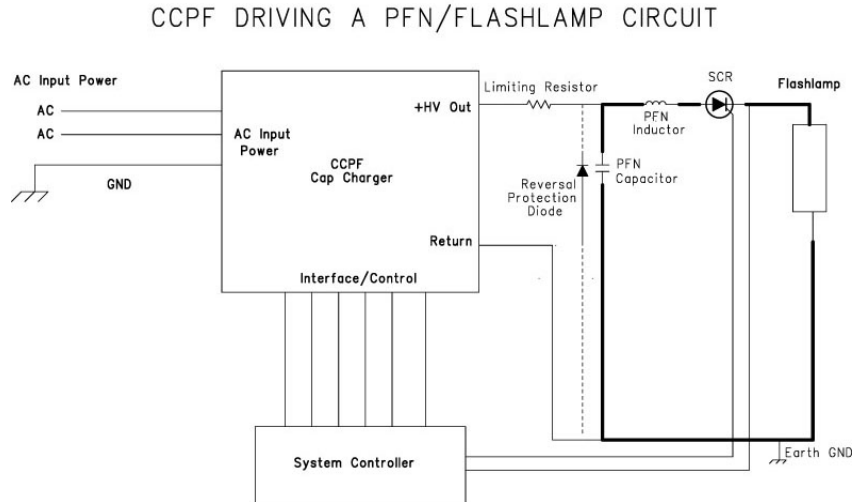

**Figure 3, CCPF-3500 Mechanical Outline Drawing**
Outline	Please see Figure 3, CCPF-3500 Mechanical Outline Drawing 14.2 inch length, 5.5 inch wide, 6.0 inch high (does not include mounting flanges or electrical terminals)
- **Required wire and connectors:** Refer to Figure 3, CCPF-3500 Mechanical Outline Drawing for the locations of connections. Table 2, CCPF Connections below shows required cables and connectors: